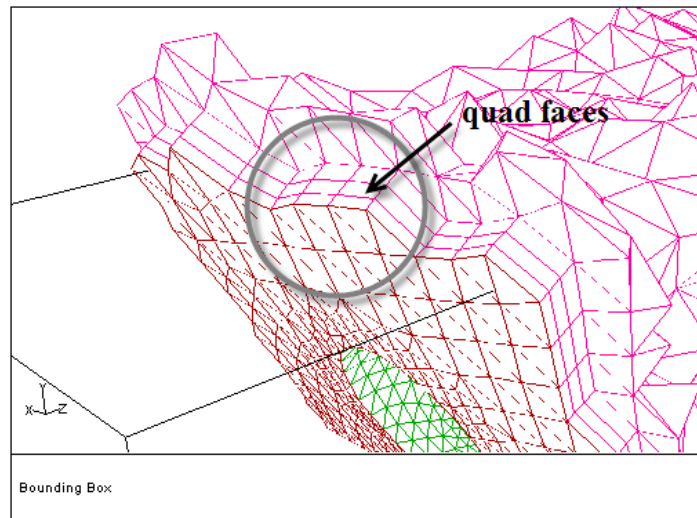

Figure 8.9: Quad Faces in the Interior
*Zoom in to the interior zone (as shown in Figure 8.9), to see the quad faces. When you remesh the cavity, the prisms created during the remeshing will connect to these quad faces.*